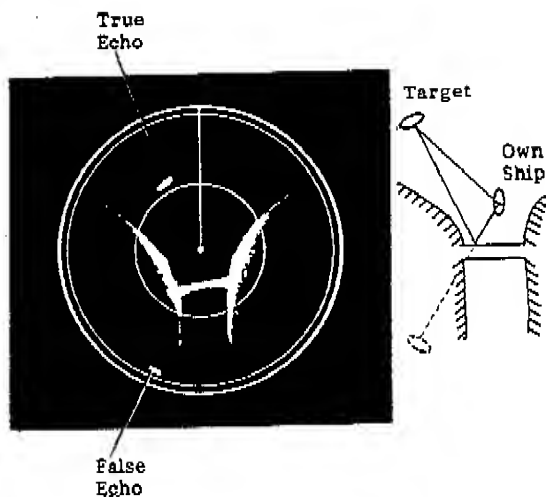

Fig.35 Indirect Echoes
Indirect echoes may be returned from either a passing ship or returned from a reflecting surface on your own ship, for example, a stack. In both cases, the echo will return from a legitimate contact to the antenna by the same indirect path. The echo will appear on the same bearing of the reflected surface, but at the same range as the direct echo. Fig.35 illustrates the effect of an indirect echo. Indirect echoes may be recognized as follows. (1) they usually occur in a shadow sector; (2) they appear on the bearing of the obstruction but at the range of the legitimate contact; (3) when plotted, their movements are usually abnormal, and (4) their shapes may indicate that they are not direct echoes.